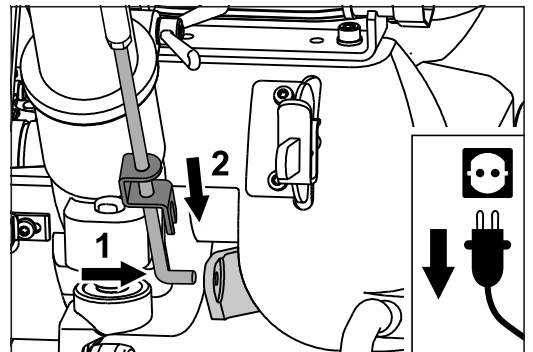

Fig. 7 Put the lower rod in the hole of the lifting fixture (1) and fix them with the closure (2).
- 3 Put the lower rod in the hole of the lifting fixture (fig. 7, 1) and fix them with the closure (fig. 7, 2).